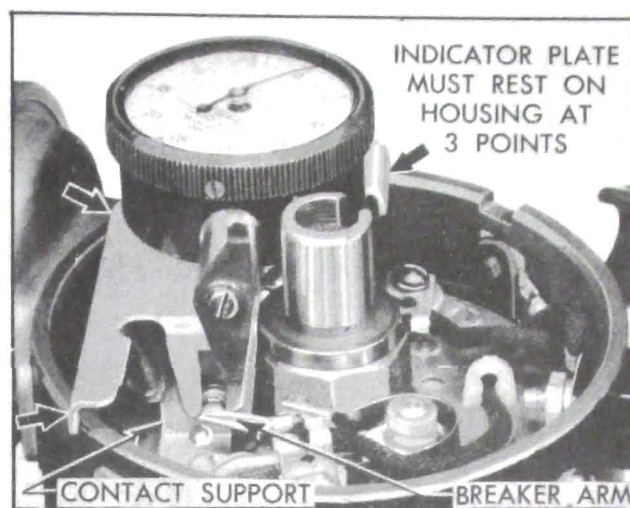

Figure 10-63—Indicator for Checking Contact Point Opening
8. Depress stem of Indicator J 3955-A so that attached finger will clear breaker arm then slip indicator locator over the contact support so that it straddles the point; release indicator stem. The *long* end of finger must be set so that the edge bears against breaker arm close to the point, and base plate of indicator must contact distributor housing at three points. Set dial indicator at zero. See figure 10-63.